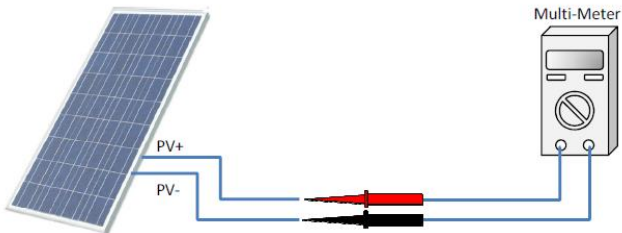

Figure 3-18 Polarity Check
3. Ensure correct polarity of the PV Strings before terminating the DC source circuits. Referring to Figure 3-18, the wiring from the PV string pairs must be checked according to the following steps: